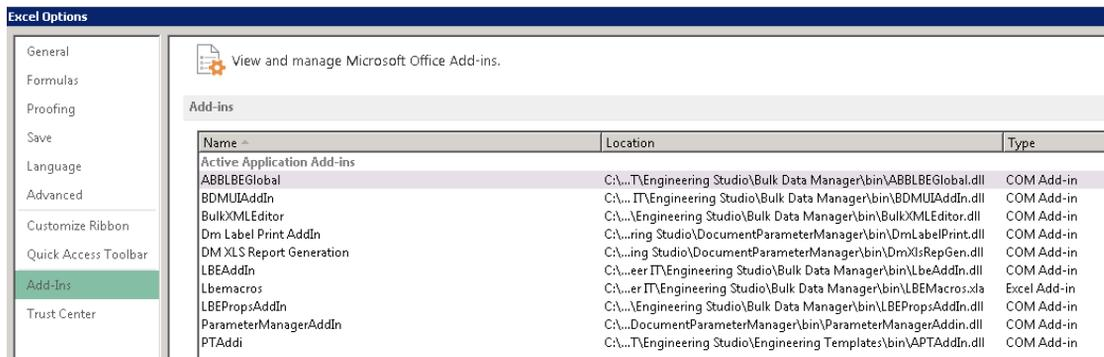

Figure 21. Engineering Studio Add-Ins
- Navigate to **File > Excel Options > Add-Ins > Active Application Add-ins**. Refer to Figure 21 to view the Engineering Studio Add-ins.